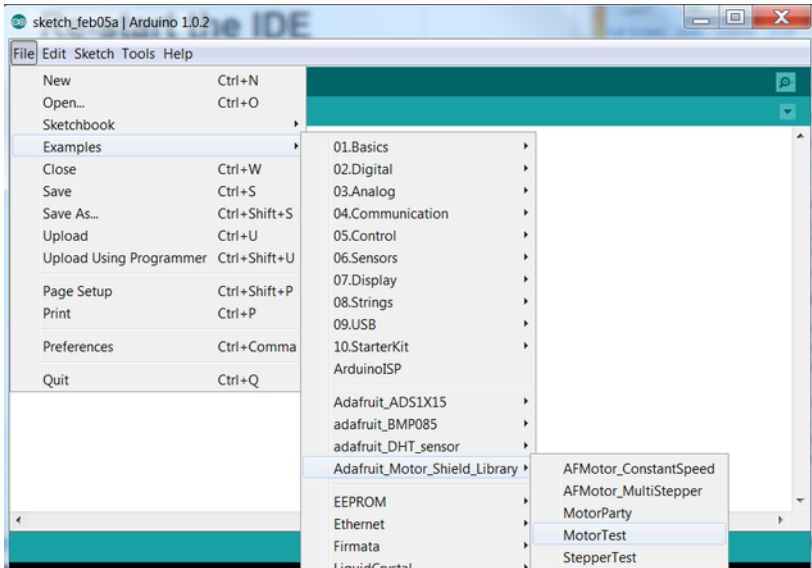

Figure 4-9. *When you restart the IDE, your library should be listed*
4. Restart the Arduino IDE and verify that the library appears in the File→Examples menu (Figure 4-9). Load one of the library examples to test, if there is one (note that some examples may require other libraries).